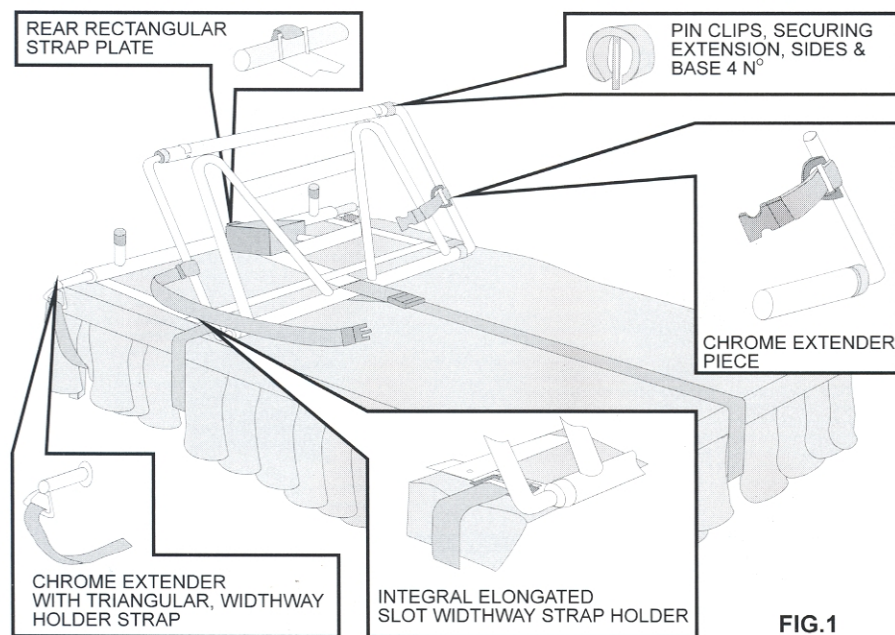

FIG.1
- 5.2 Place the Quiet Knight™ onto the bed squarely with the raised section facing the head of the bed. See Fig 1.